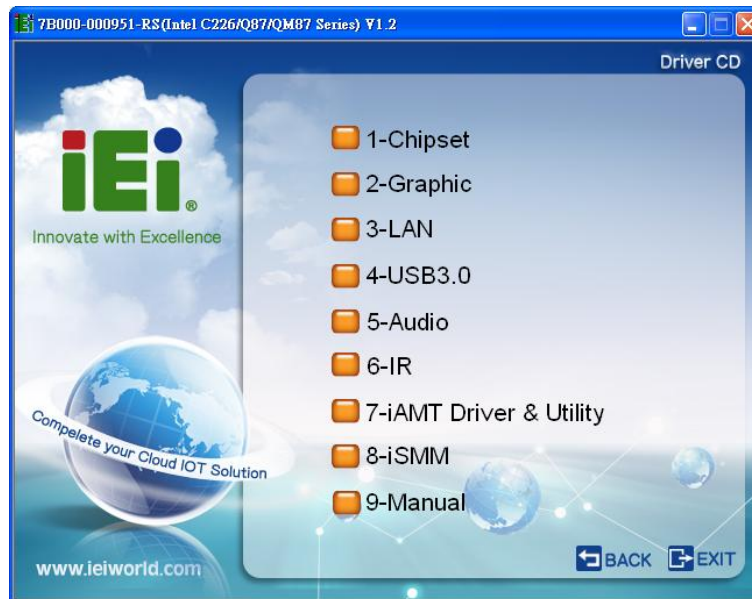

Figure 6-2: Available Drivers
**Step 4:** A new screen with a list of available drivers appears (Figure 6-2).